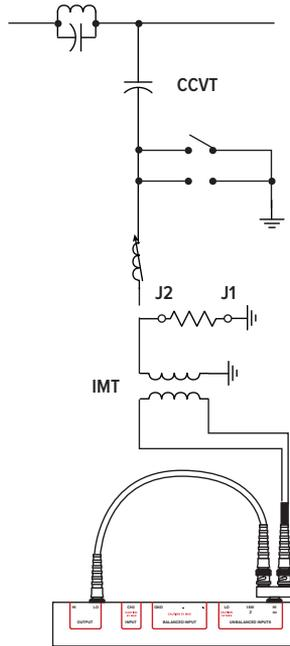

FIG 1 - IMT TEST CONNECTIONS
8. Connect the Model 630 test box white terminal (J2) to the output of the impedance matching transformer & the black terminal (J1) to ground (See Figure 1). This connects the test box for resistance only.